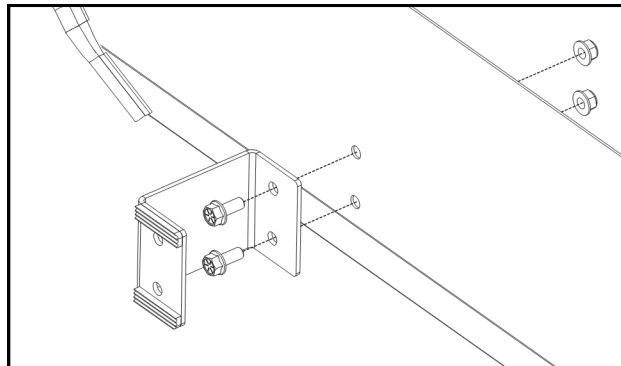

Figure 22.6 (SMV Sign Relocation Bracket)
22.6 Install the provided SMV sign relocation bracket to the lower rear panel with the rubber strips face away from the panel as shown in Figure 22.6.